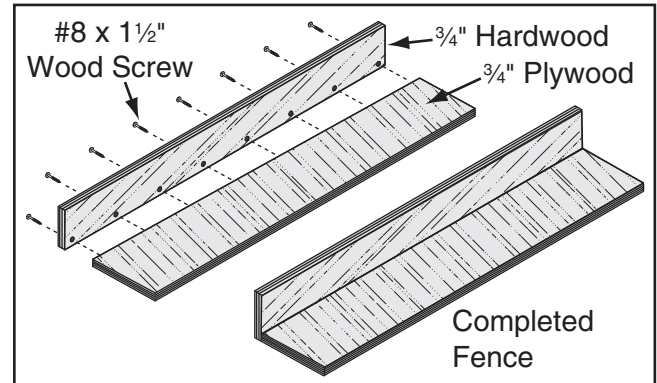

Figure 76. Location of pilot holes.
2. Pre-drill and countersink eight pilot holes $\frac{3}{8}$ " from the bottom of the 3" wide board, then secure the boards together with eight #8 x $1\frac{1}{2}$ " wood screws, as shown in **Figure 76**.